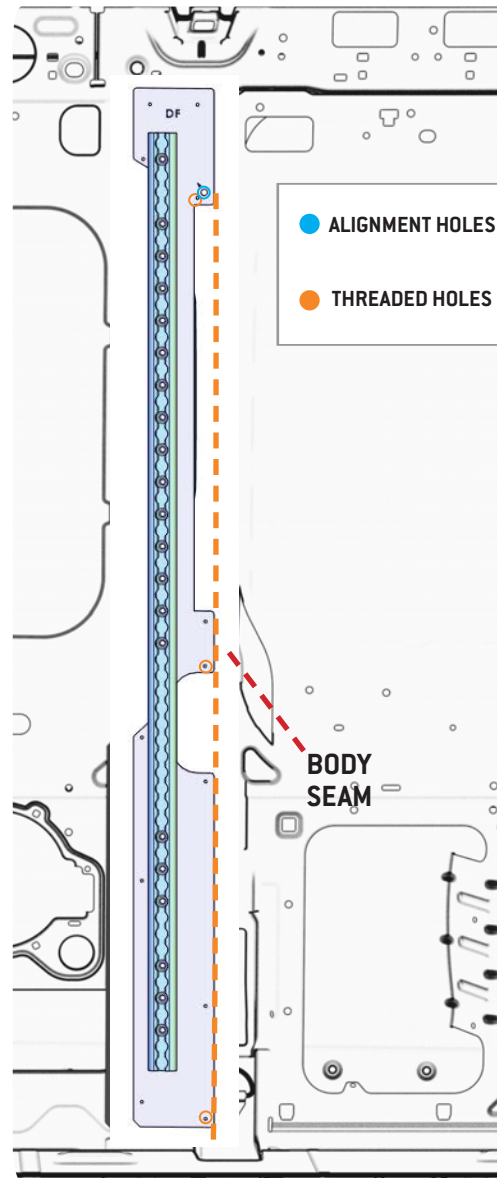

FIG 3
2.1 Align Driver Side Front Bracket: Align the Driver Side Front Bracket to the Alignment Point as shown in FIG 3. There should also be a Body Seam that you can use as a visual guide.